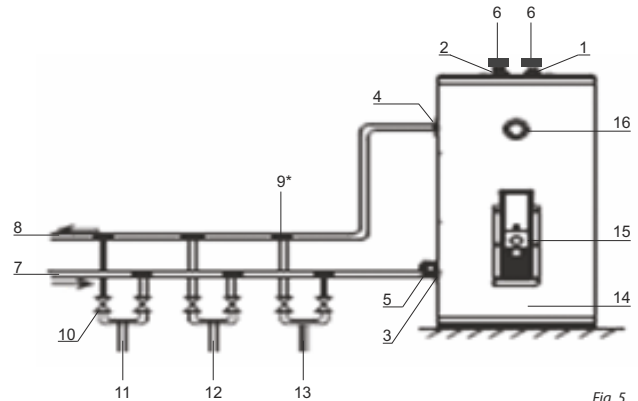

Fig. 5
5. An option of possible connection of the water heater to the water main for several consumption points is shown in Figure 5.